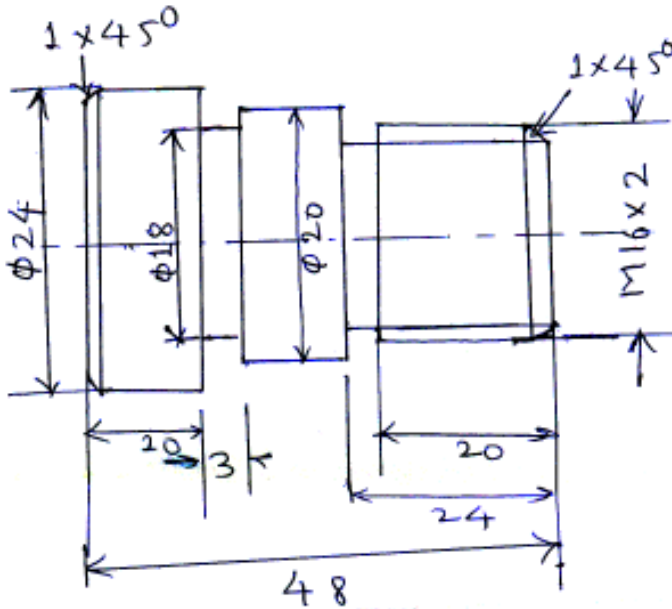

Fig. No. 1
1. Referring to Fig. No. 1. Design the set of plate type of cams for a single spindle Automatic Machine. Assume suitable machining parameters depending upon the type of material to be machined. Include the information on the chart and draw the layout for turret cam.